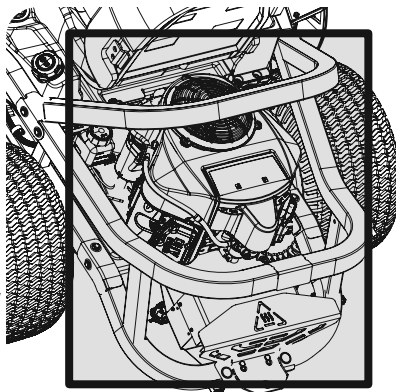

Figure 33
- Keep both sides of transmission cooling slots, exhaust manifold, around fuses, all wiring and harnesses, muffler pipe, muffler shield, engine intake screens and cooling fins, etc. clear of grass clippings and leaves. See Figure 33.